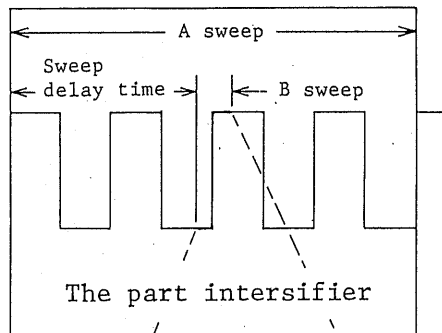

Figure 4-12
After ensuring that the SOURCE switch (48) is set in the START AFTER DELAY state, turn the DISPLAY switch to the A INTEN position. A part of the displayed waveform will be accentuated as shown in Figure 4-12, indicating the state ready for delayed sweep. The intensified portion denotes the section corresponding to the B sweep time (DELAYED SWEEP).